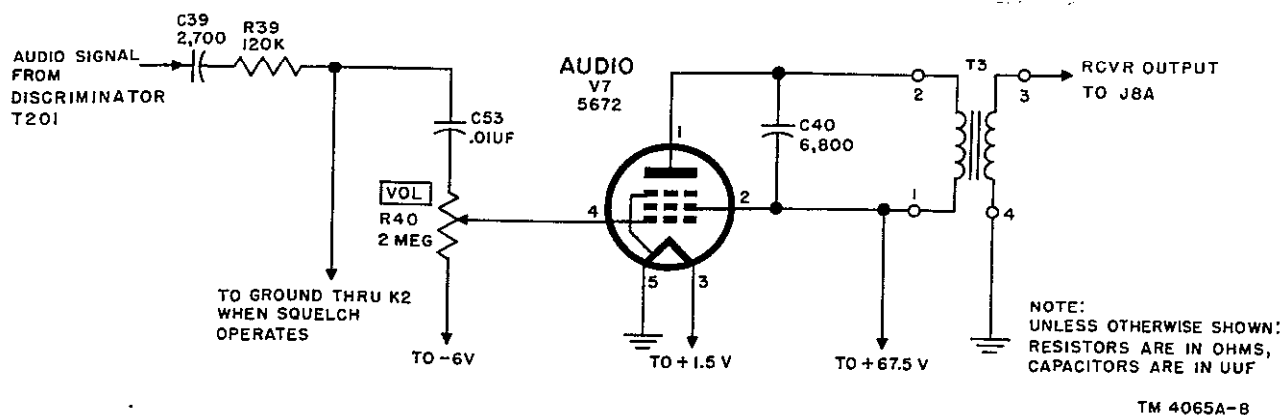

Figure 12. Audio amplifier V7, schematic diagram.
17. Audio Amplifier V7 (fig. 12)